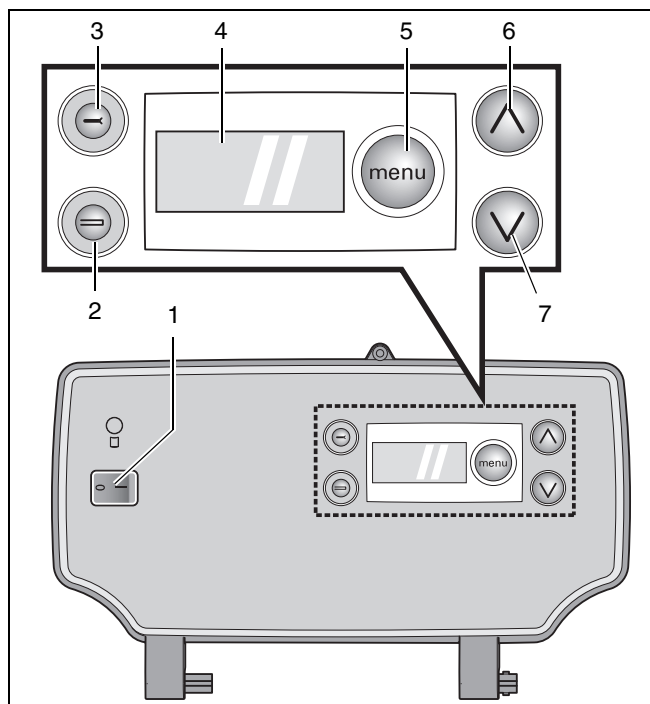

fig. 1 DBA
1. Mains switch (see fig. 1)
2. Reset button "⊖" (see fig. 1)
3. Service Button "⊖" (see fig. 1)
4. Display (see fig. 1)
5. Menu button "menu" (see fig. 1)
6. and 7. Up "▲" and Down "▼" keys (see fig. 1)